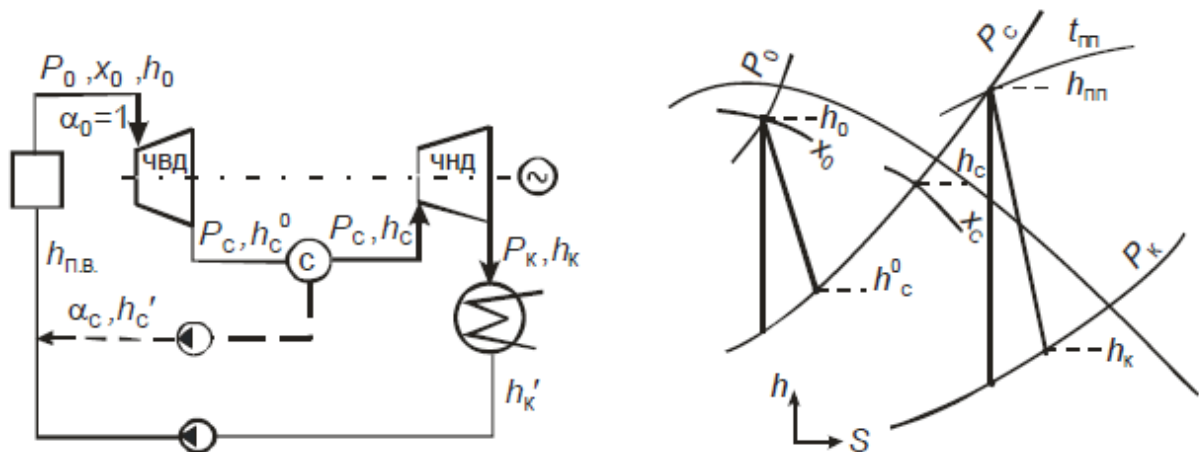

Fig.2 – Scheme and process of expansion in the turbine for the steam turbine unit with separation.
- 2) The scheme and expansion process in the turbine for the 2nd task is shown in Fig. 2.